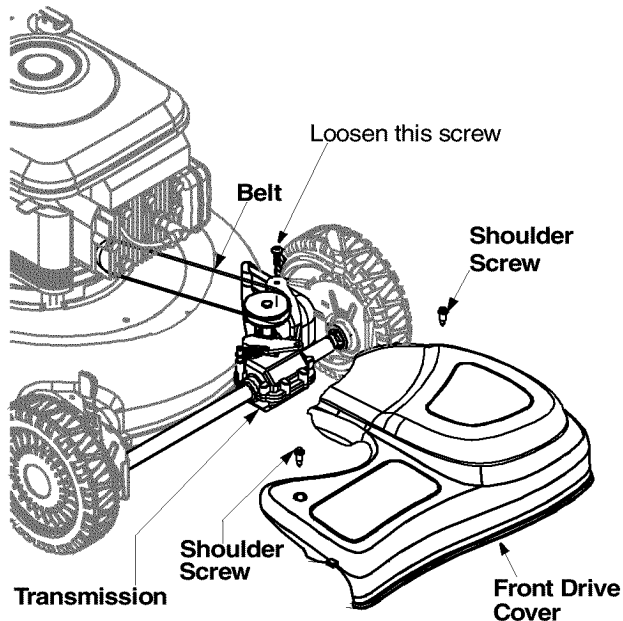

Figure 13
- Remove two shoulder screws securing the front drive cover to the mower deck. See Figure 13 .
- Using a torx wrench, loosen the screw holding the belt tension spring to the transmission. See Figure 13 . Do not remove the screw completely. As you loosen the screw, the tension on the belt will be released.